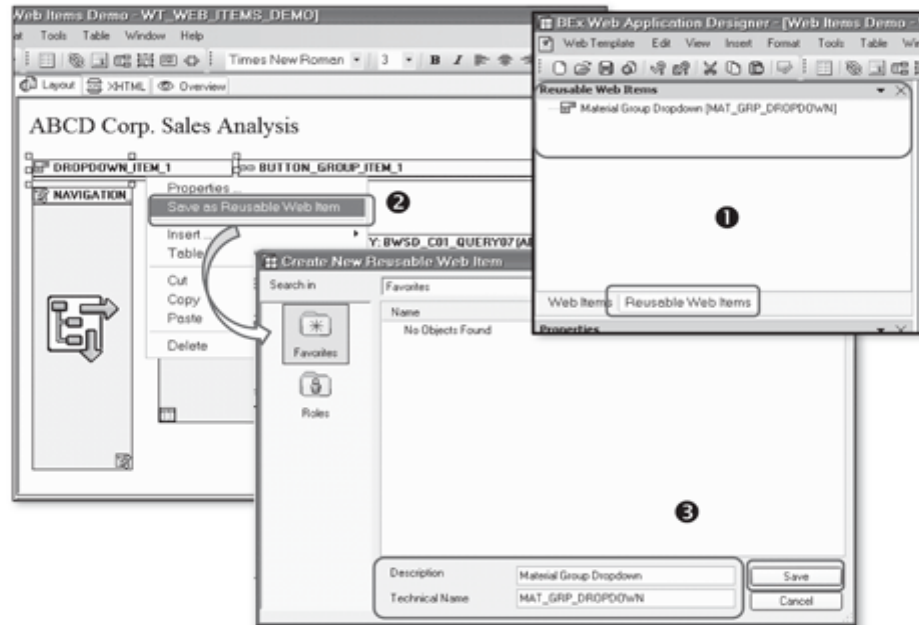

Figure 11.32 Reusable Web Items
Web items that are included and configured in a web template can be saved as a Reusable web item in the web application designer. These saved web items are available under the Reusable Web Items tab in the Web Items panel (see ❶ of Figure 11.32).